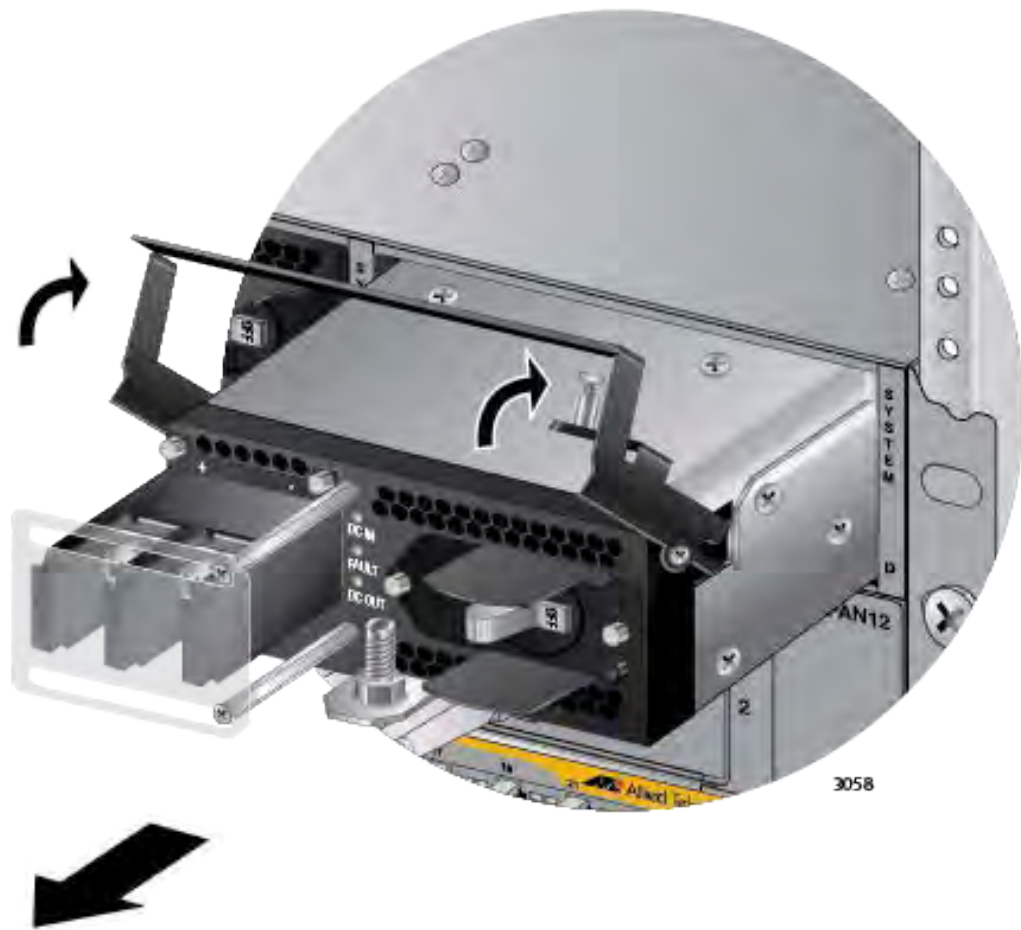

Figure 171. Lifting the Locking Handle and Removing the Power Supply
11. Lift the locking handle and slide the power supply from the chassis. Refer to Figure 171 on page 280.